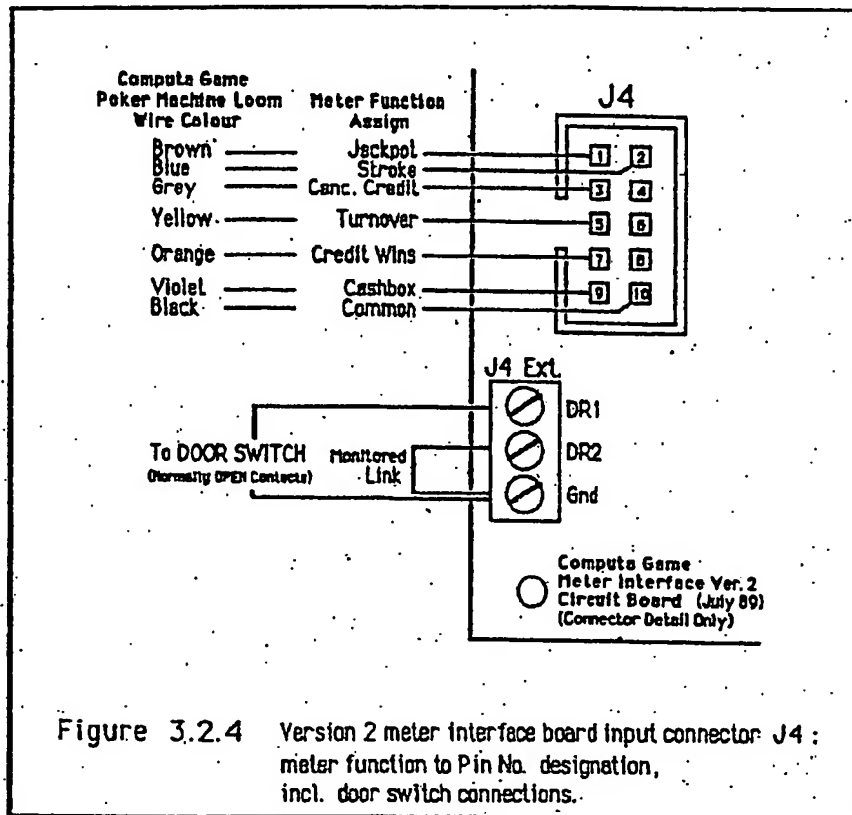

Figure 3.2.4 Version 2 meter interface board input connector J4 : meter function to Pin No. designation, incl. door switch connections.
- Figure 3.2.4 Shows the Version 2 meter interface board input connector J4 : poker machine meter function to Pin No. designation and door switch connections.
Figure 3.2.4 shows the version 2 meter interface board input connector J4: poker machine meter function to Pin No. designation, and door switch connections, and includes Computa Game standard wire colours for the meter functions.